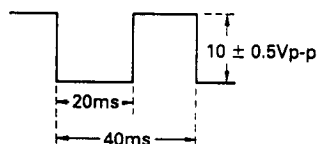

Figure 44.
2. Monitoring TP5 with an oscilloscope (internal trigger), check that the requirements given in Figure 44 are met.